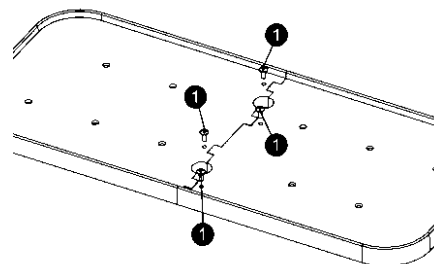

Figure 11
2. Ensure that the tongues and grooves of each TRP meet and the plates connect. Then, add screws to hold the TRPs together. See Figure 11.